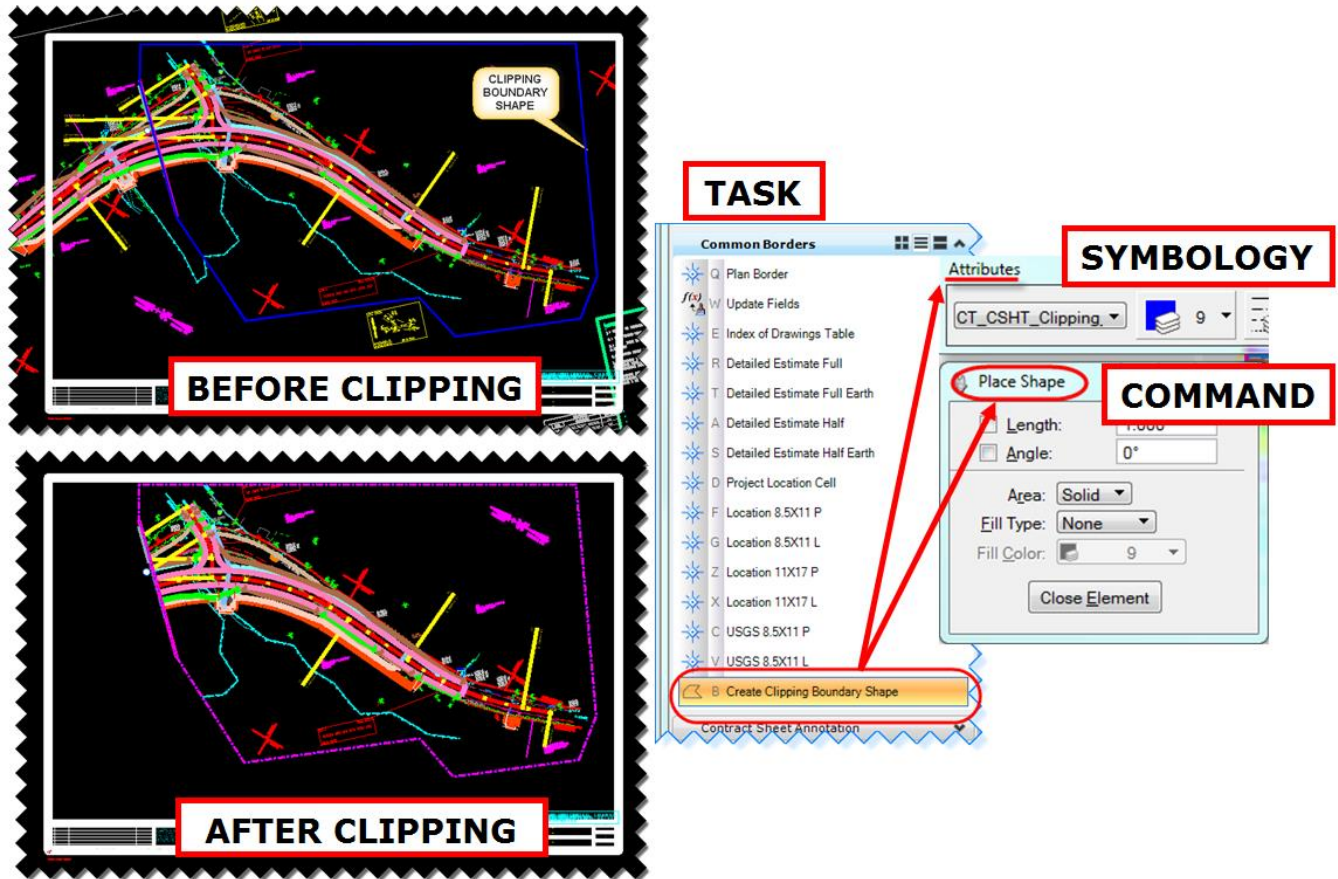
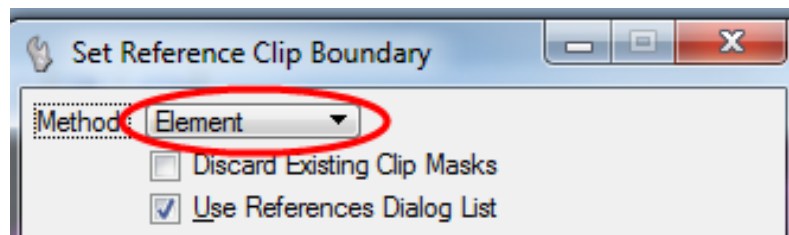

Figure 50 - Clipping Boundary Shape Task
Figure 51 - Set Reference Clip Boundary Task
8. Select the **Create Clipping Boundary Shape** task; this activates the **Place Shape** command. Place a shape around the reference elements you want within your clipping boundary, see Figure 50.
9. In the references dialog box **select all** of the reference files you want to clip. **Right-click**, select **Clip Boundary** or select Tools from the References box and select **Clip Boundary**. Select the Method: **Element** (Figure 51). **Data point** on the shape (clipping boundary shape). **Accept and Reset**. See Figure 50 and look at the AFTER CLIPPING Figure.